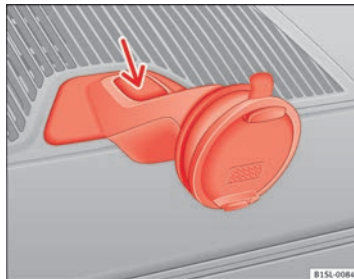

Fig. 126 Remove the navigator holder
- Press the holder release button → Fig. 126 (arrow).